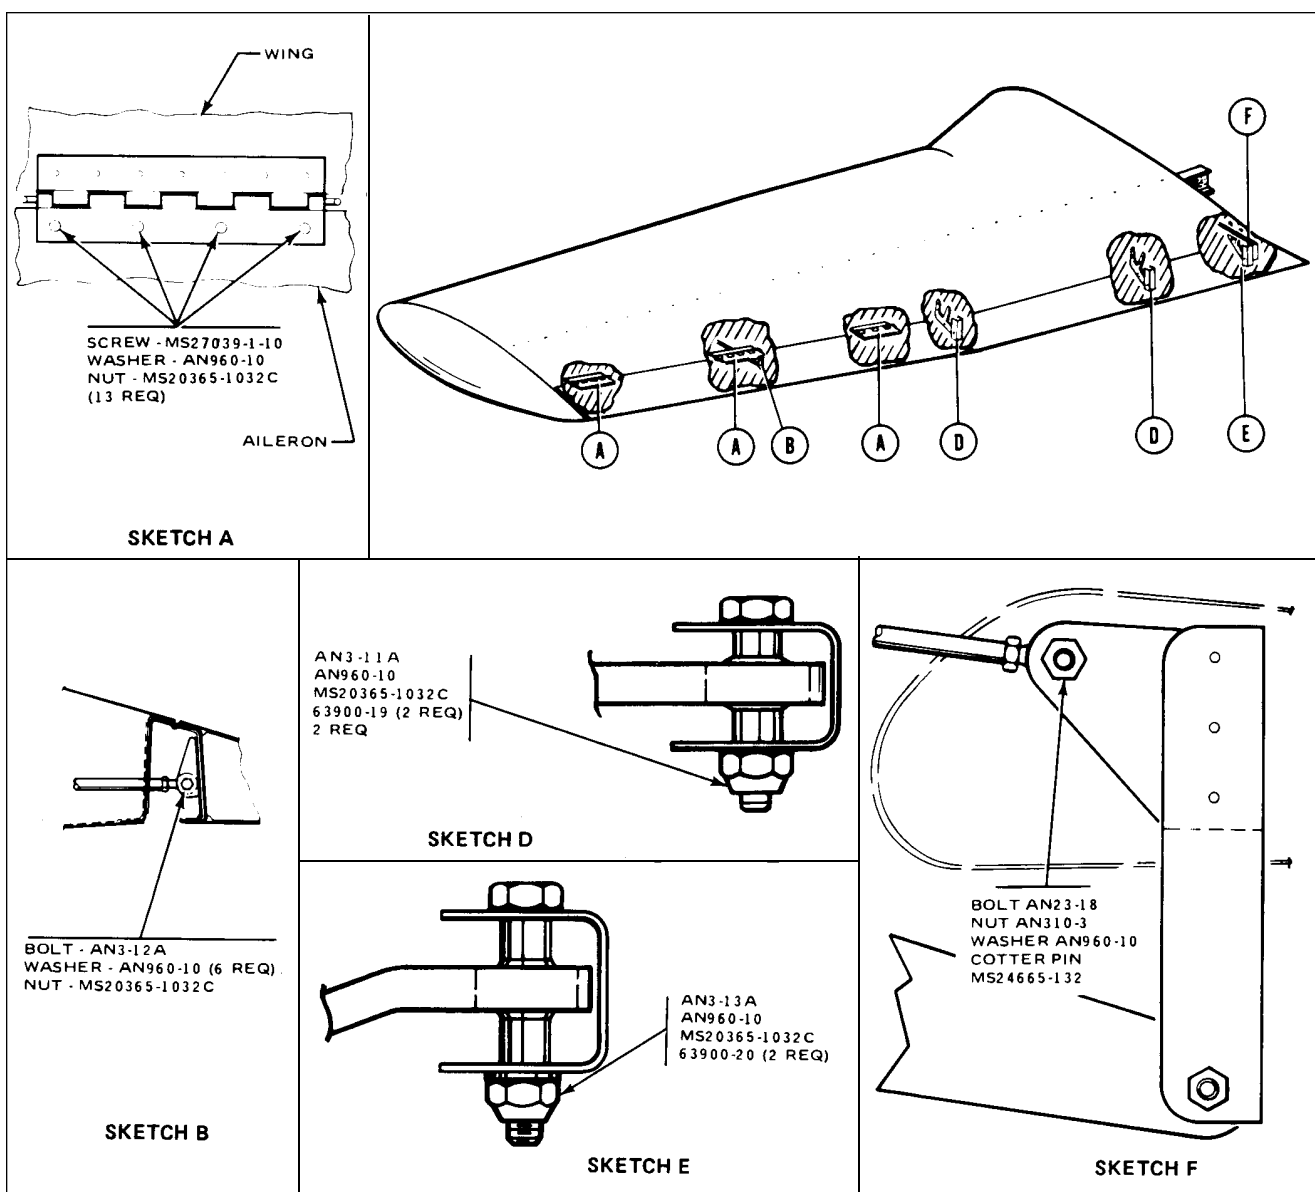

Figure 4-1. Aileron and Flap Installation
**4-8. REMOVAL OF AILERON. (Refer to Figure 4-1.)**
**4-9. INSTALLATION OF AILERON. (Refer to Figure 4-1.)**
**4-11. REMOVAL OF WING FLAP. (Refer to Figure 4-1.)**
**4-12. INSTALLATION OF WING FLAP. (Refer to Figure 4-1.)**